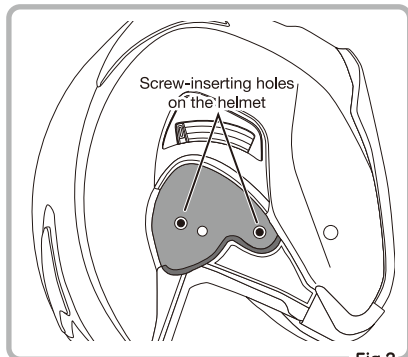

Fig.2
- ② As shown in Fig. 2, pull the shield in the sense of the arrow while pressing down the release button on the shield. One side of the shield is completely removed.
- ② Place the Shield Ratchet in the recess on the side of the helmet and align the mounting holes on the shield ratchet with the mounting holes on the helmet (Fig. 2).